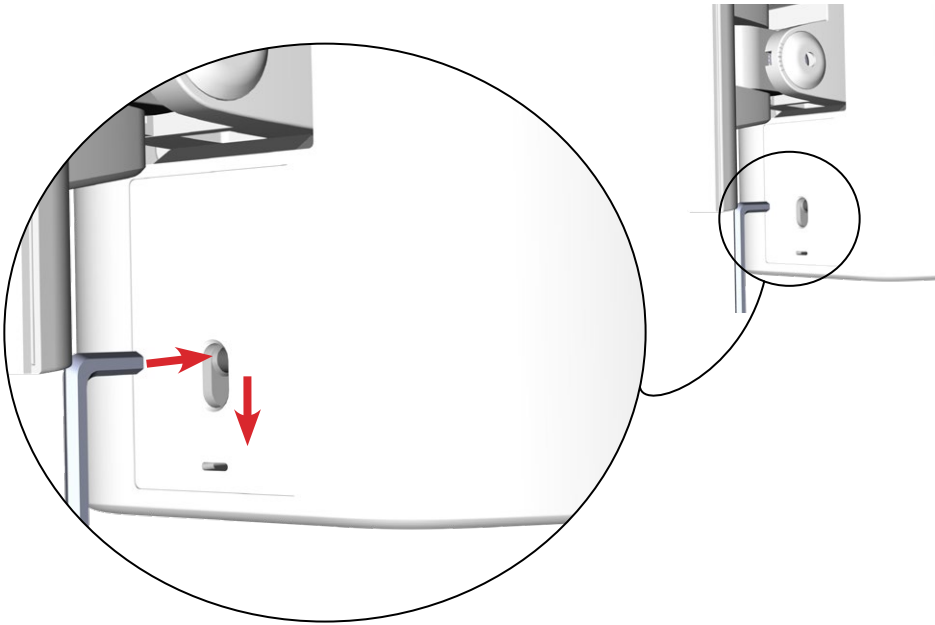

Figure 8a. Insert the hex wrench into the hole and pull down to release the latch
1. Insert a 5mm hex wrench into the hole within the slot in the middle of the label on the rear panel (Figure 8a).